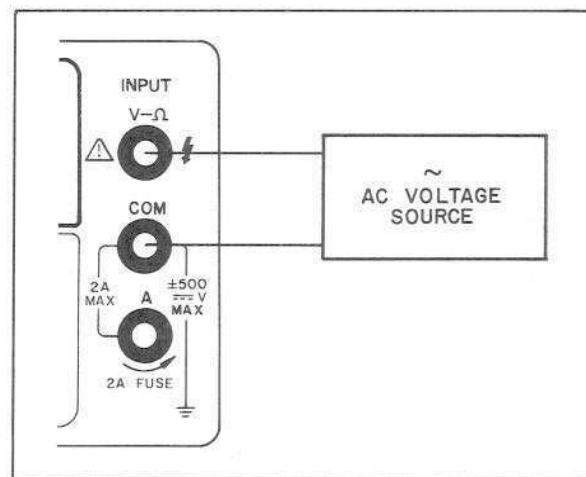

Figure 3-5. AC Voltage Measurement.
- c. Connect test leads from the Multimeter VΩ (high) and COM (low) terminals to the voltage under test as shown in Figure 3-5.